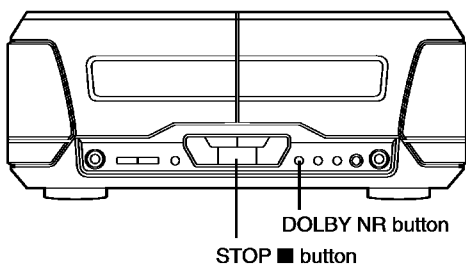

Fig. 5-1.
3. Press the DOLBY NR button for about 2 seconds, and keep pressing it, also press the STOP button for about 2 seconds. Refer to Fig. 5-1. (The symbol "T" is displayed on the tuner/amplifier. It indicates the service mode has been activated.)